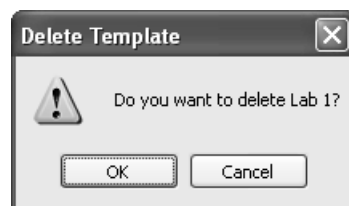

Figure 8-13: The Delete Template Dialog
- 4) Click **Delete Template**. This opens the **Delete Template** dialog(Figure 8-13).